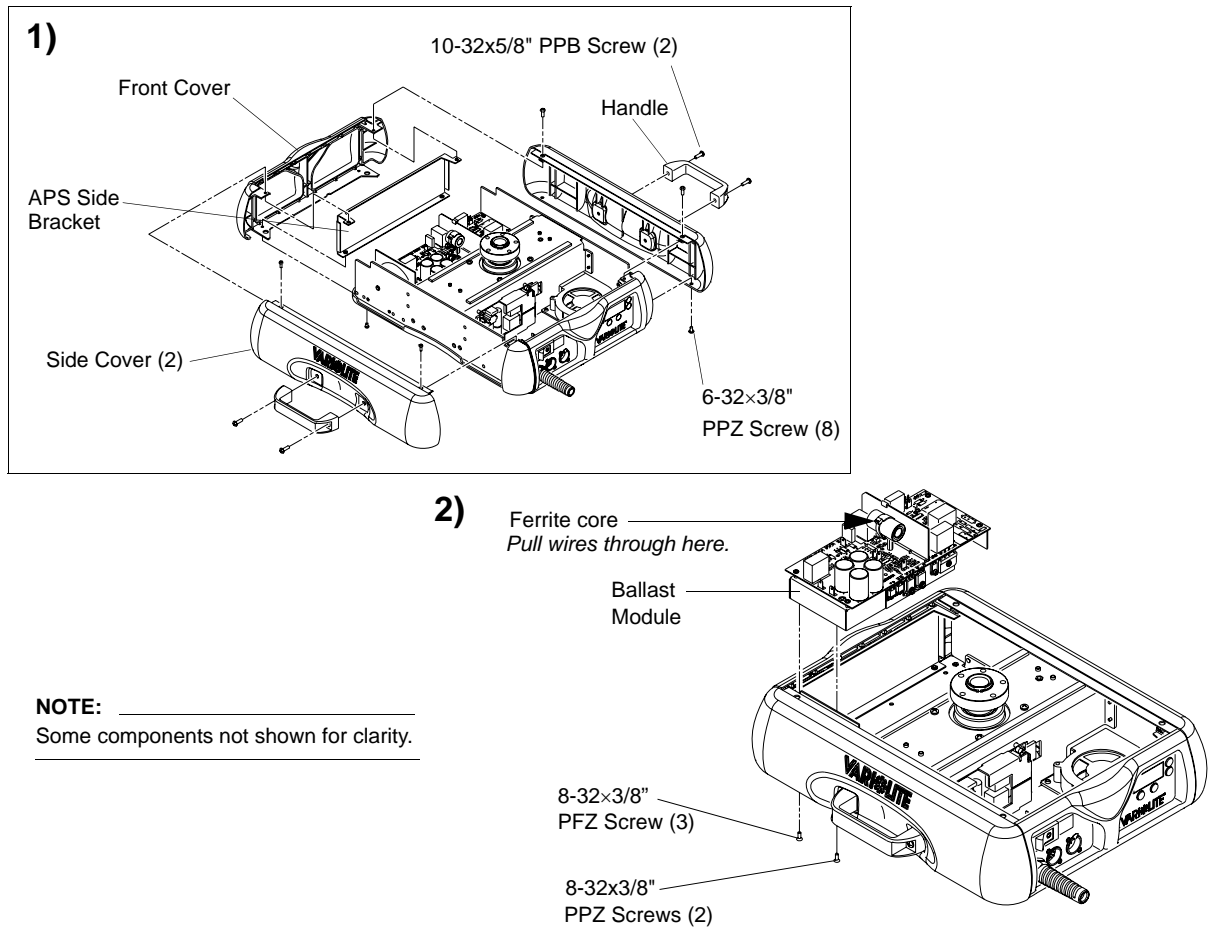

Figure 2-6: VL3000 Ballast Assembly Replacement
- Step 6. At bottom of enclosure, remove four 1/4-20x1/2" socket screws and 1/4" split lock washers and remove ventilation cover (as shown in Figure 2-6 on page 23).